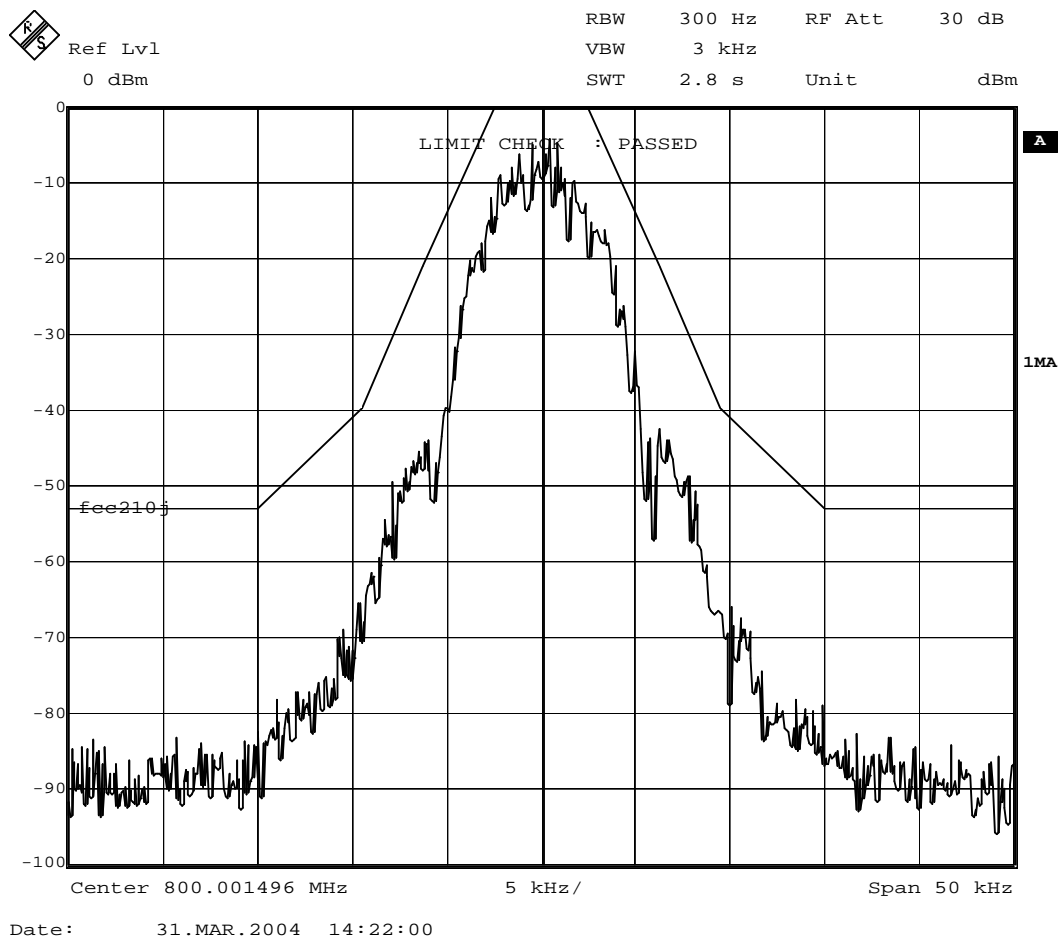

Figure 35 Modulation from CMX990 with 47 CFR 90.210 (J) emission mask
The modulation of the CMX990 is produced digitally, ensuring excellent accuracy and no need for alignment of deviation as might be required with an analogue modulator. The CMX990 is designed to meet the requirements of various international standards including EN 300 113 and EN 300 220 in Europe and 47 CFR 2.1049 & 90.210 (J) applicable in the USA (Figure 35).